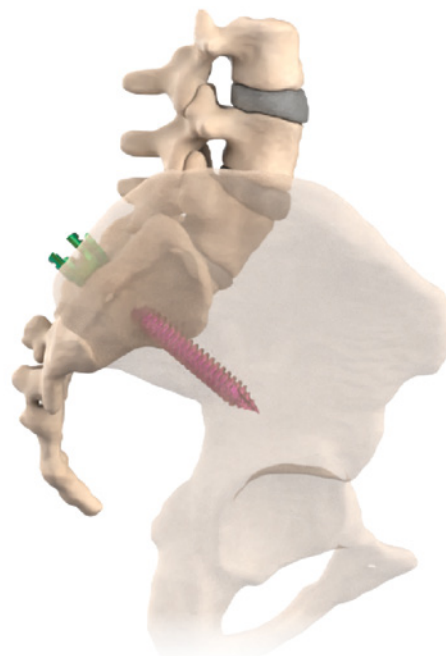

Figure 4.7
6. It is imperative that the surgeon document Pedicle Probe positioning via fluoroscopy. On the lateral and coronal image, the S2AI screws should be placed above the superior rim of the sciatic notch (Figure 4.7). The ideal trajectory of the S2AI Modular Shank is situated immediately above the notch so that the bottom threads of the screw will be in contact with the cortical bone forming the upper limit of the notch, providing a better pull-out strength